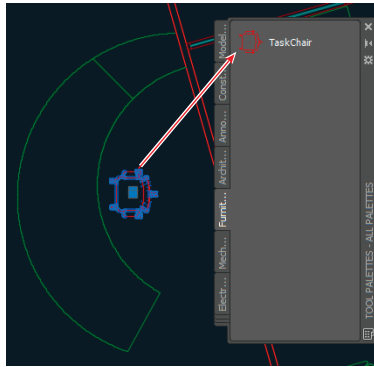

FIGURE 9.22 Creating a tool on a new palette by dragging a chair block onto it
3. Select the receptionist's chair. Drag this chair (not using a grip) onto the Furniture palette. `TaskChair` appears with a preview icon (see Figure 9.22).